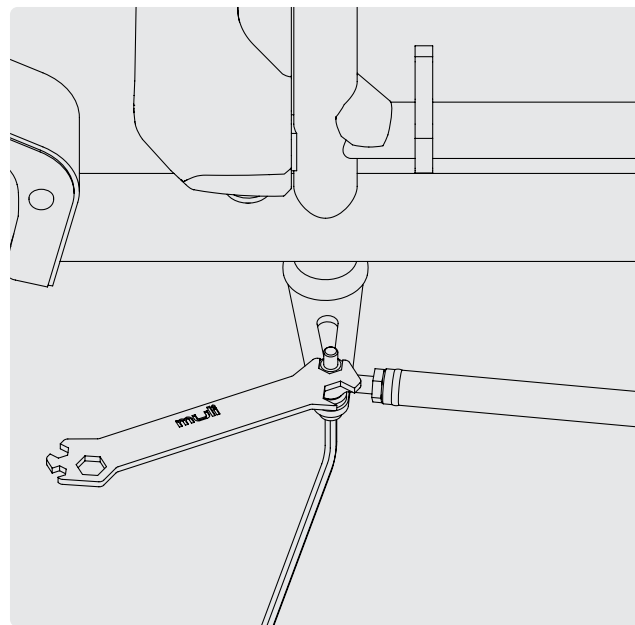

FIG. 11
- 2 Tighten the counter nut with a 6 mm Allen key and a 13 mm open-end spanner such that the handlebars can be easily turned (Fig. 11).